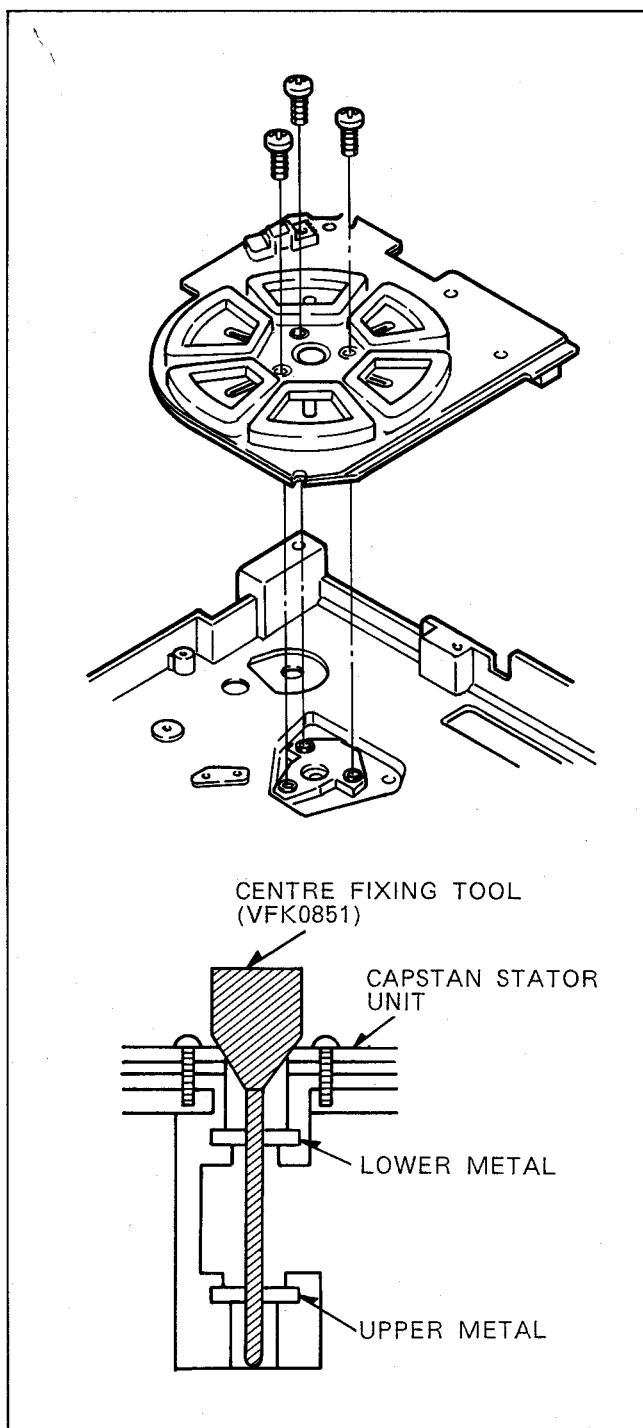

Fig. T2
- 3) Insert the CENTRE FIXING TOOL(VFK0851) as shown in Fig.T2.